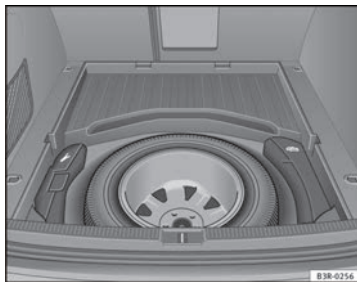

Fig. 196 Spare steel rim wheel
- Turn the plastic knob ⇒ Fig. 196 anticlockwise.